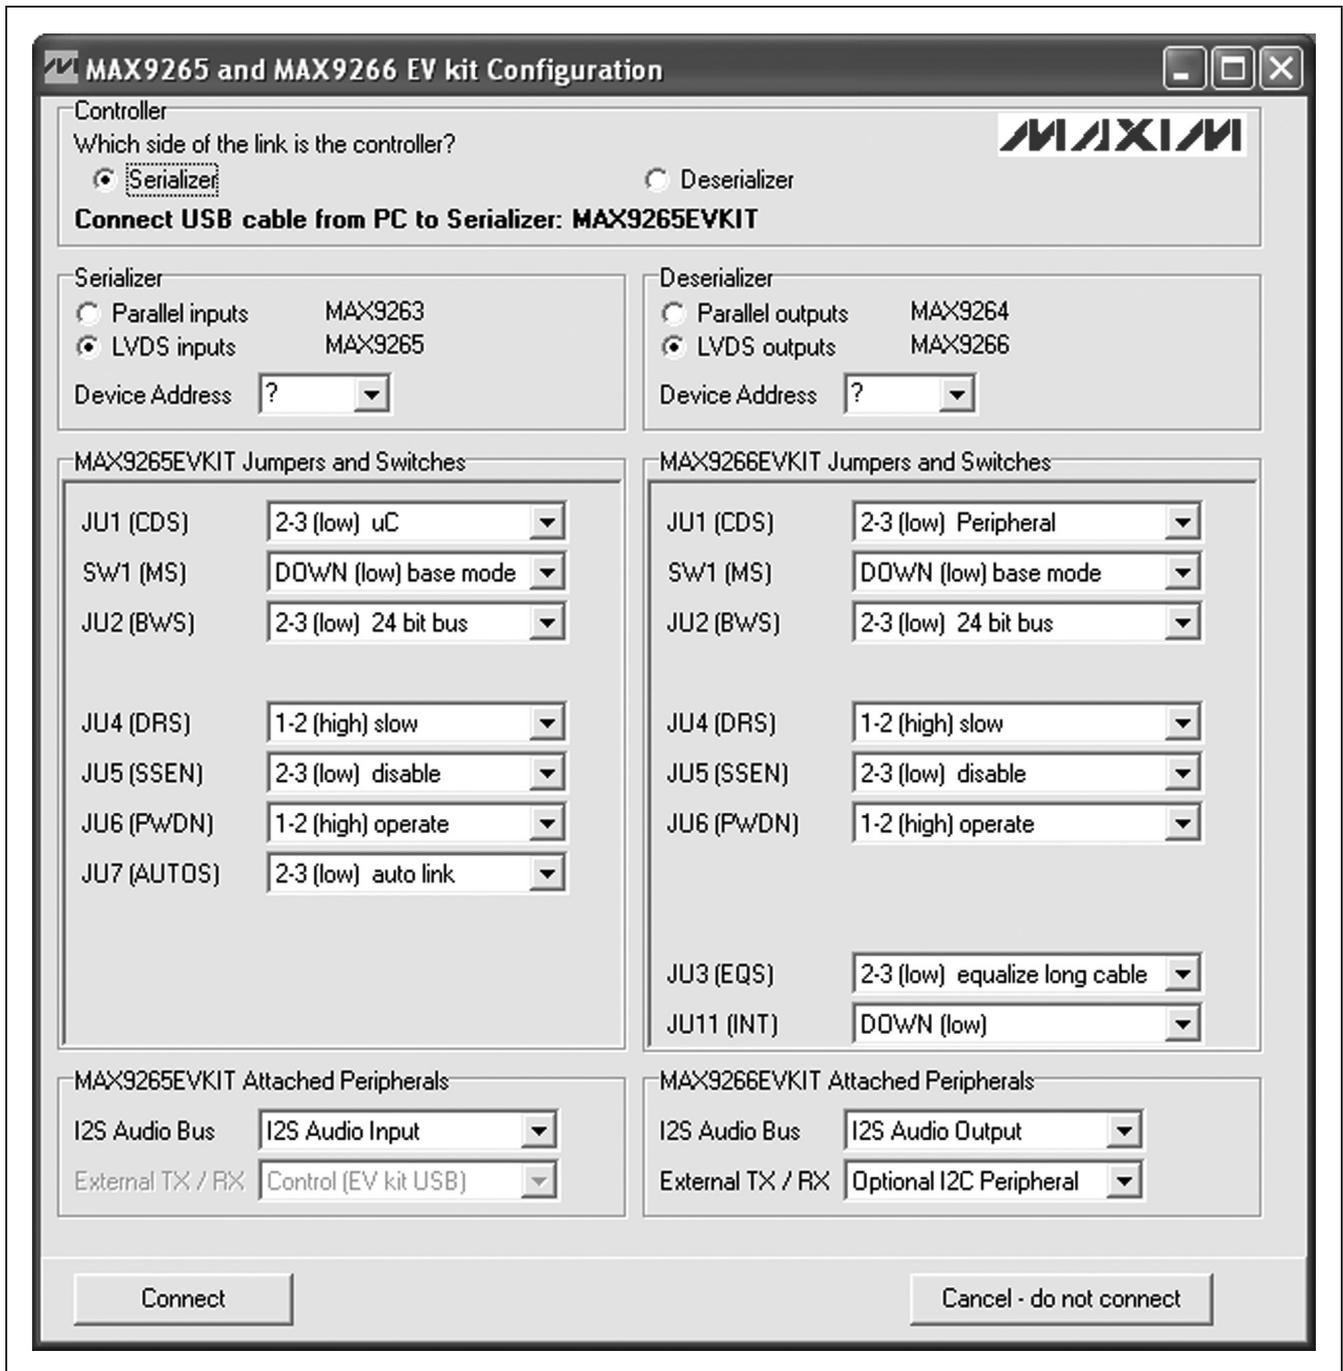

Figure 8. MAX9265/MAX9266 EV Kit Software Configuration Window
- 15.2) Start the MAX9265 EV kit software by opening its icon in the **Start | Programs** menu. The EV kit software configuration window appears, as shown in Figure 8.
The **Change Configuration** button brings up the software **Configuration** window (Figure 8), allowing the software GUI to select which side of the link the USB cable should be plugged into. Controlling from the MAX9266 side requires changing some jumper settings, as described in this window. If the MAX9265 and MAX9266 device addresses have been previously changed from their